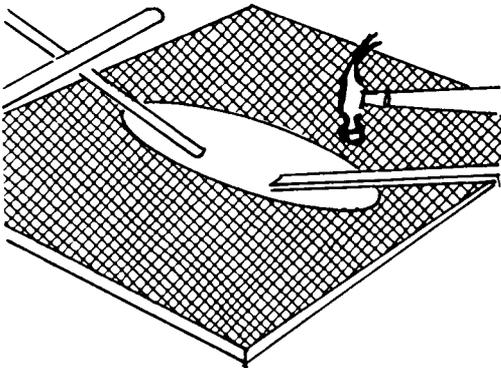

*FIGURE 10. PLACING REINFORCING ROD.*
The finished slab is quite strong because its three parts are cast at the same time (see Figure 10). The method described here can be applied to other water-seal slab designs.
9. Press in 4 pieces of 6mm (1/4") steel reinforcing rod. See Figure 10.